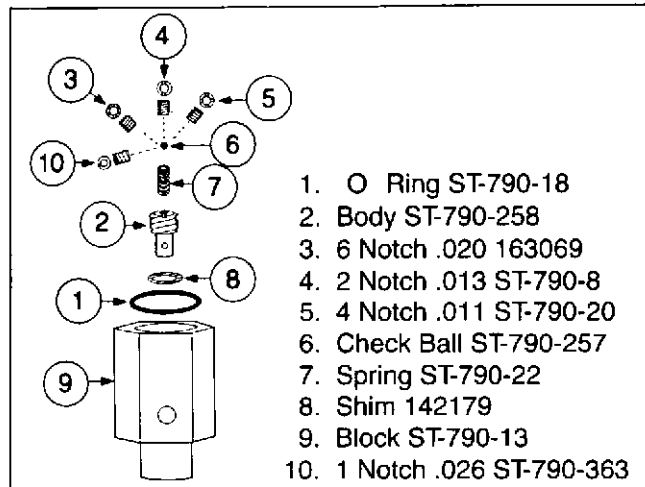

Fig. 4-48, (F60134). Injector seat restrictor orifice
8. Make sure the injector seat contains a 0.020 inch [0.51 mm] restrictor orifice when calibrating the test stand with a 132 cc flow injector. Use a 0.026 inch [0.66 mm] orifice when calibrating the test stand with a 178A or a 185A cc flow injector, Fig. 4-48.